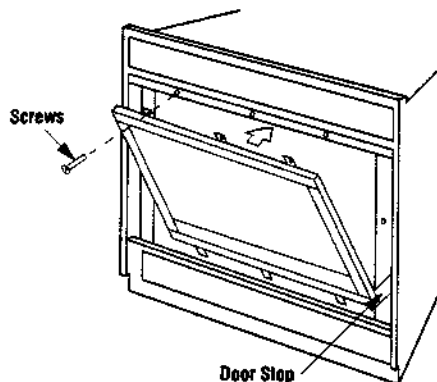

Figure 44
Position the door frame in front of the firebox opening, with the joint in the gasket down (Figure 44). Locate the three (3) tabs at the bottom edge of the door frame into the three (3) brackets at the base of the fireplace front opening. Lean the door frame back towards the fireplace ensuring that the gasket seats evenly as the door frame draws shut. Install the three (3) 1/4"-20 x 1" Phillips pan head screws removed previously and tighten to secure. Ensure that the tab on the bottom of the door frame engages the door switch.